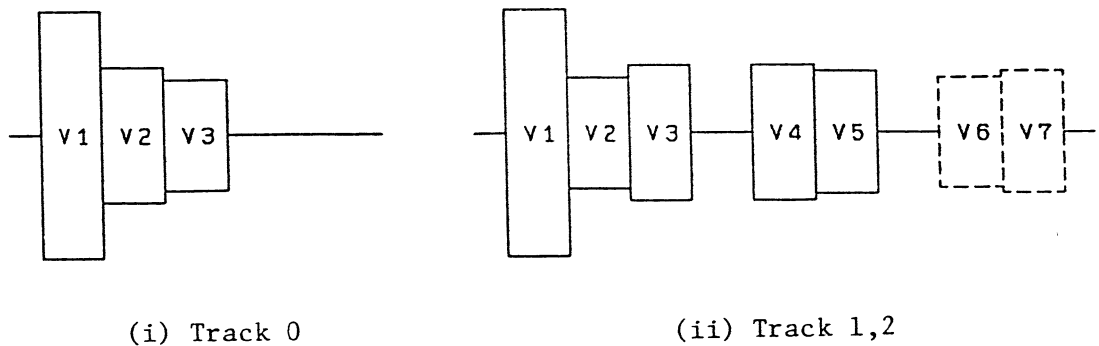

Fig. 425 Burst signal
7 Key in "A22", and further "1", and adjust the variable resistor R21 (Fig. 336) on the PCBA Drive Control until the output level of the burst signal V1 displayed on the oscilloscope is within 1.3 to 2 Vpp (Fig. 425).
- 9 Key in "A21", and further "1", and adjust the variable resistor R17 (Fig. 336) until the burst signal V1 is within 1.3 to 2 V_{pp} (Fig. 425).
- 2 Key in "A22", and further "0", and adjust each burst signal of tack 2 displayed on the oscilloscope as follows (Fig. 425).
- 3: The burst signals V6 and V7 shown in Fig. 425 is not necessary for the maintenance.